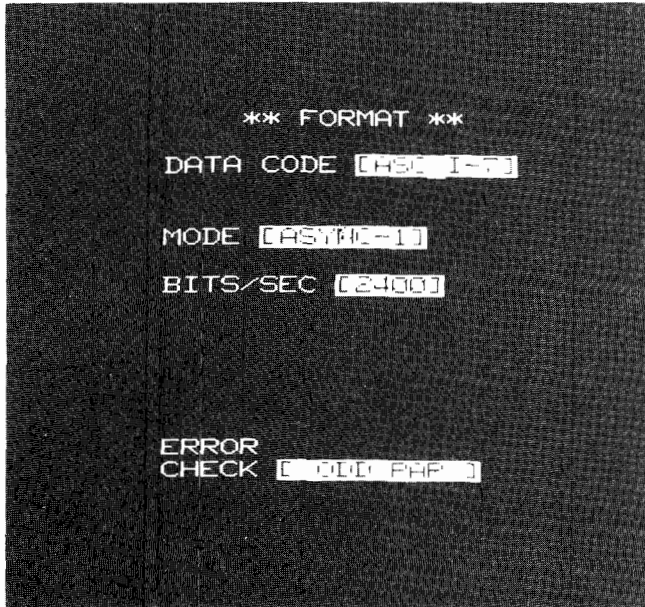

Figure 16-21 1640A Daisy-Chain Format Selection (Simulation Mode)
a) Press the FORMAT key to display the Format parameters. Configure the Format as shown in figure 16-21.